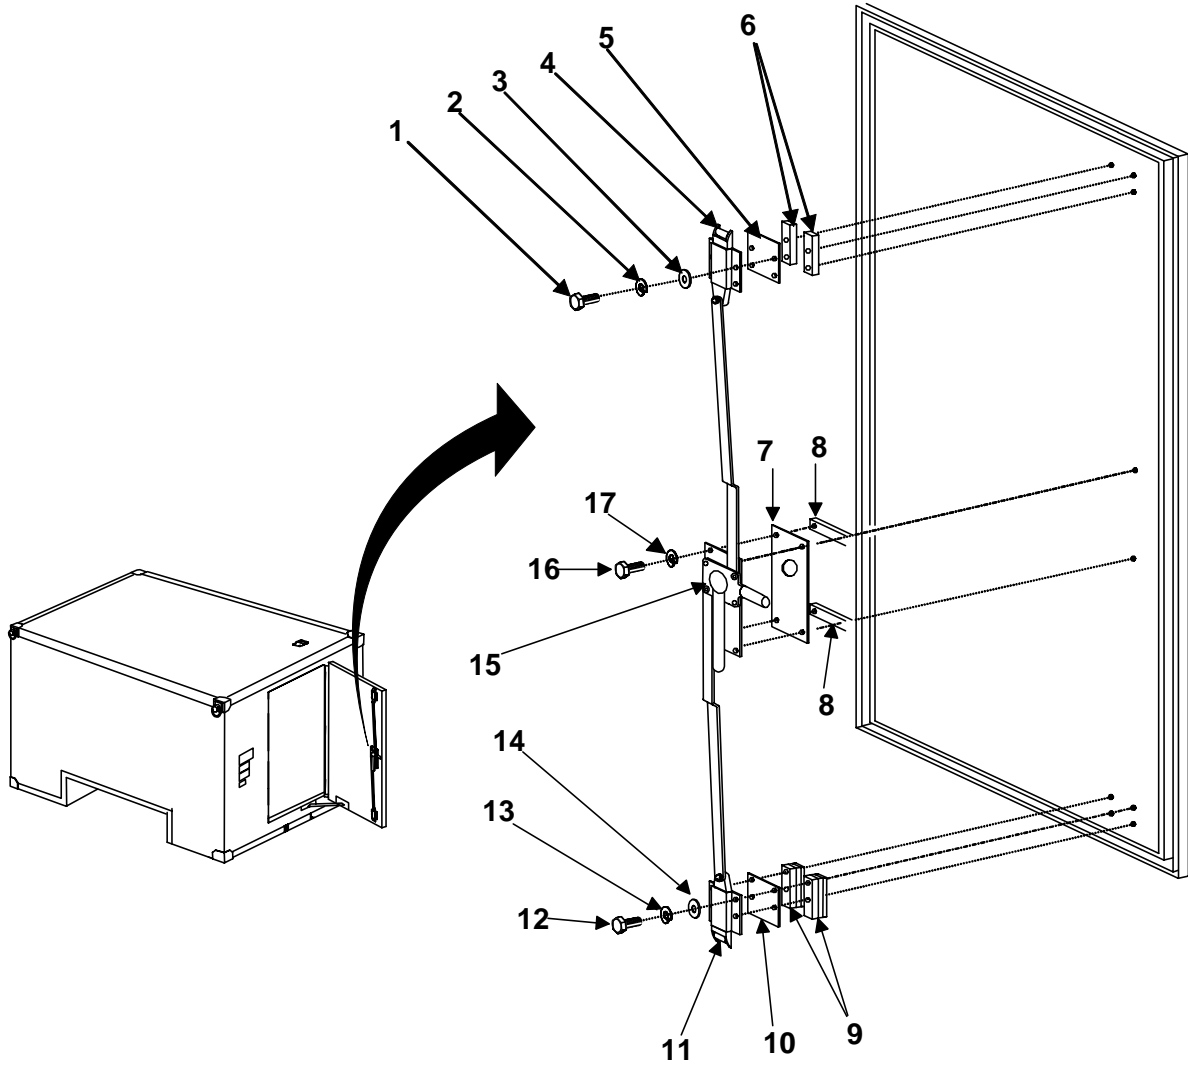

Figure 1. Roller Latch Assembly.
2. Secure center latch mechanism (figure 1, item 15) of the three point roller latch mechanism to door using four bolts (figure 1, item 16), lock washers (figure 1, item 17), shim (figure 1, item 7), and two spacers (figure 1, item 8).
3. Secure upper three point roller latch (figure 1, item 4) to door using four bolts (figure 1, item 1), lock washers (figure 1, item 2), flat washers (figure 1, item 3), shim (figure 1, item 5) and two spacers (figure 1, item 6).
4. Secure lower three point roller latch assembly (figure 1, item 11) to door using four bolts (figure 1, item 12), lock washers (figure 1, item 13), flat washers (figure 1, item 14), shim (figure 1, item 10) and two spacers (figure 1, item 9).